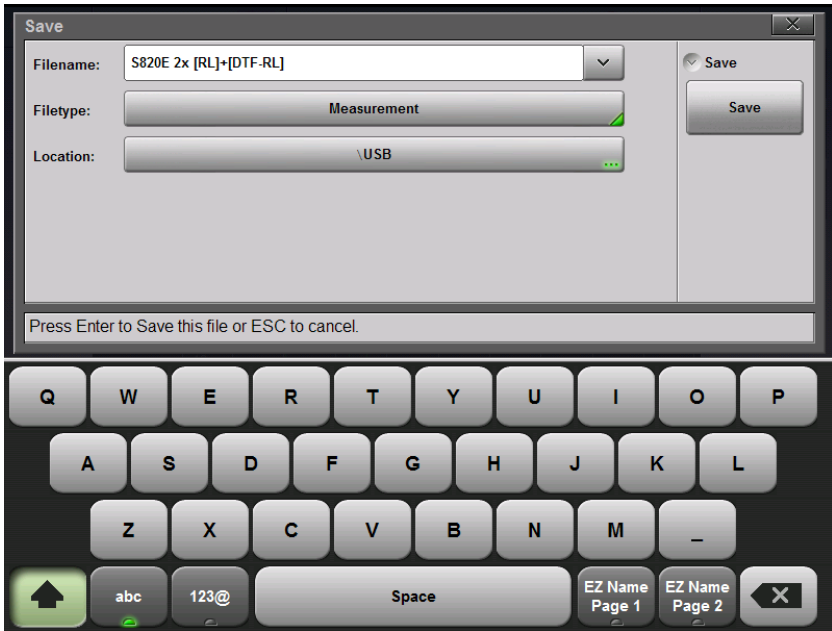

Figure 10-4. Save Location is set to root directory in External USB Drive
3. Double tap on the USB flash drive icon and, if desired, create folders for the saved files. Press the **Set Location** button. The location for saving is now set to the external USB drive (\USB). Refer to Figure 10-4 on page 10-8.
Pressing the Location: button (in the Save menu) opens the Save Dialog Box (Figure 10-4) and displays the File Save and Navigation submenus. These functions are described in “File Mgmt Menu” on page 10-33.